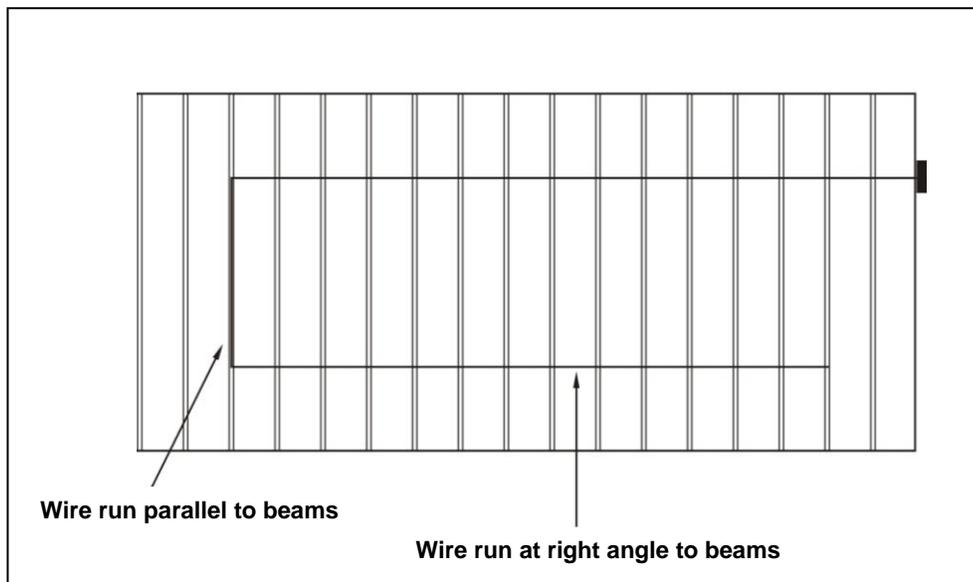

Figure 36
- Maximum of 17' 6" (5.3m) off any walls or partitions that rise to within 18 inches (46cm) of the ceiling. These wire runs are at a right angle to the beams as indicated in Figure 36.